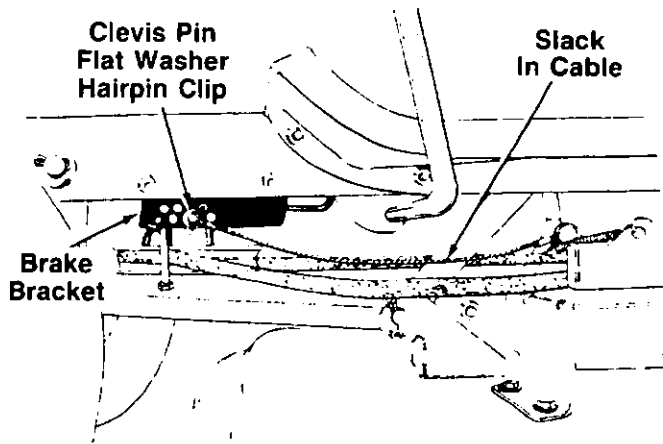

FIGURE 14.
- b. Pull the brake cable toward the front of the tractor, and line it up with a hole in the brake bracket. Then attach the cable to the next hole toward the rear of the tractor, using clevis pin, flat washer  $\frac{1}{4}$ " I.D. and hairpin clip. There should be some slack in the cable as shown in figure 14.